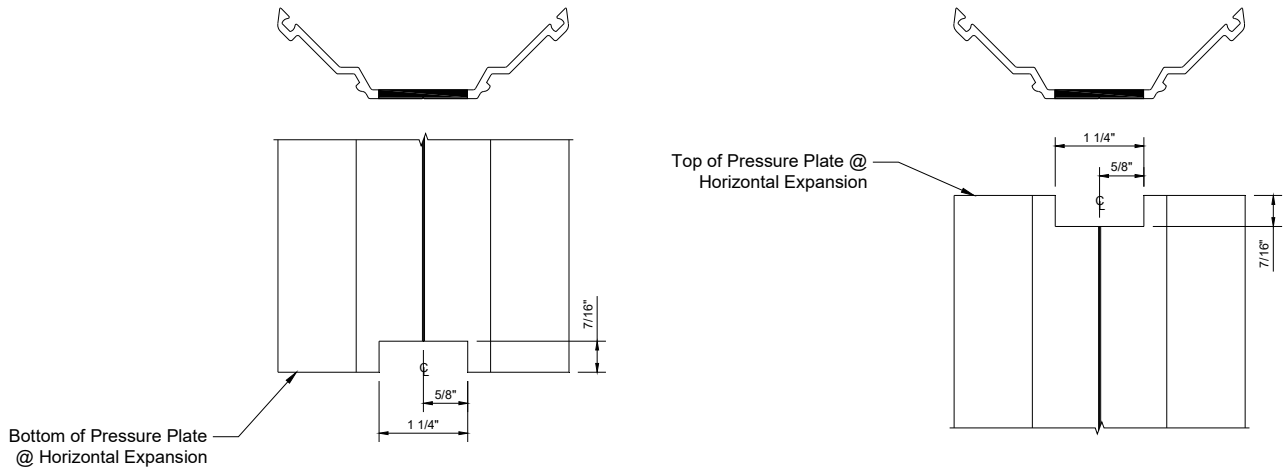

Figure 13: RL-164 Pressure Plate Fabrication at Expansion Horizontal
- 6.2 Fabricate **RL-164** Pressure Plate at **GP-144** Expansion Gasket per *Figure 13*.